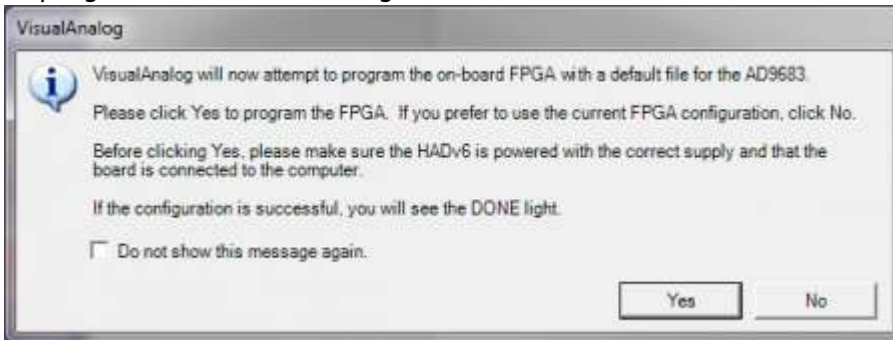

Figure 4. VisualAnalog Default Configuration Message
2. After the template is selected, a message appears asking if the default configuration can be used to program the FPGA (see Figure 4). Click **Yes**, and the window closes.